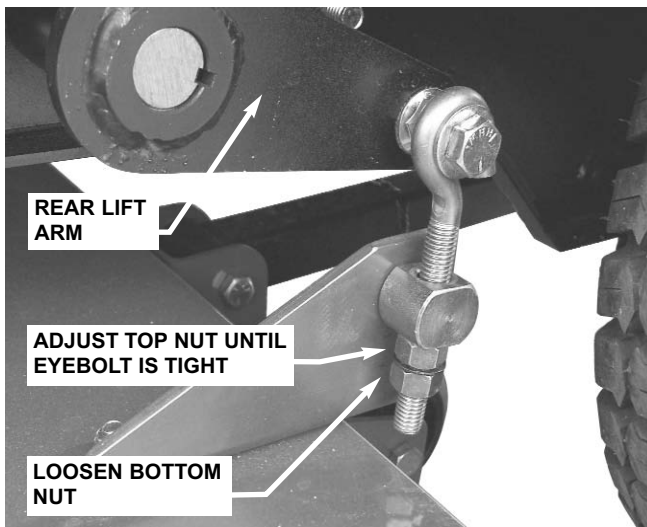

FIGURE 5.6
8. Loosen the bottom nuts that secure both rear deck support eyebolts. Adjust top nuts until eyebolts are tight, then tighten bottom nuts securely. See Figure 5.6.